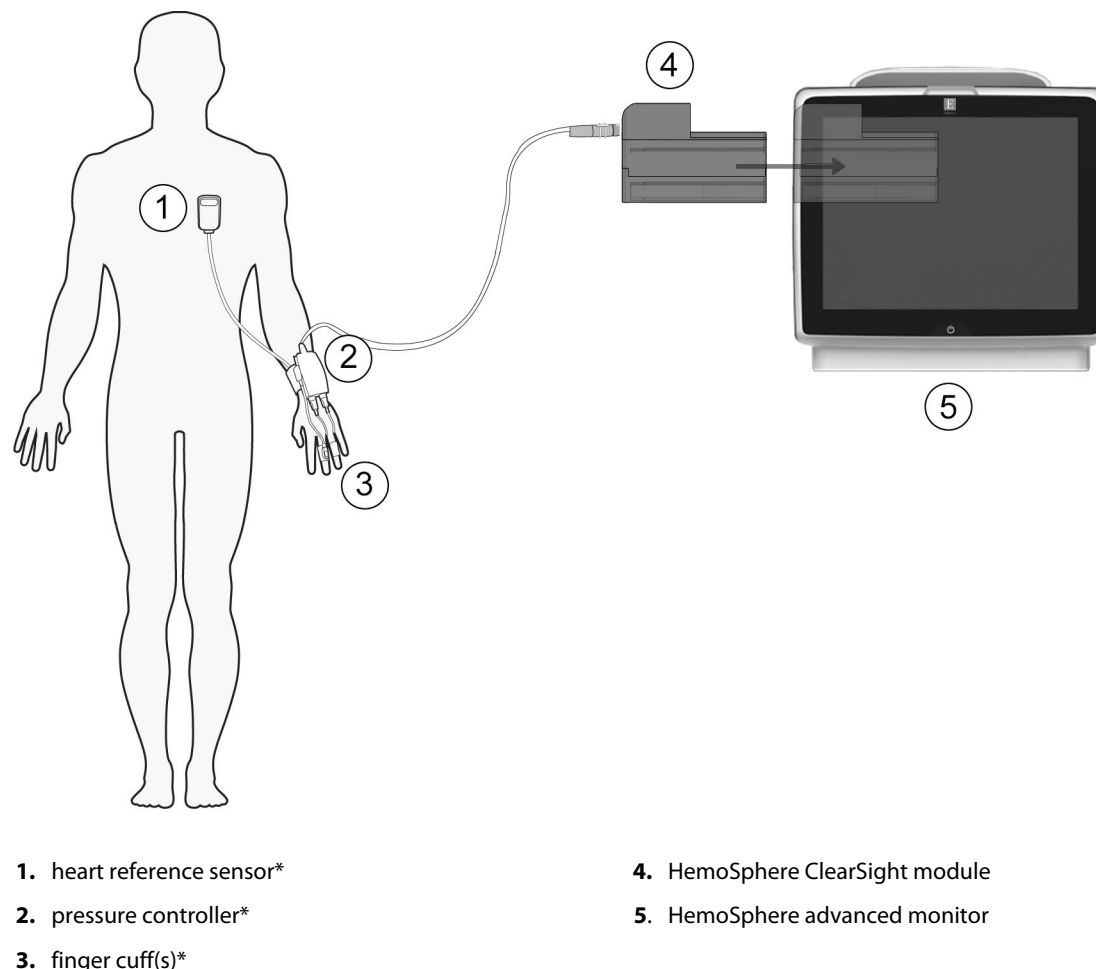

Figure 11-1: HemoSphere noninvasive system connection overview
The HemoSphere noninvasive system is composed of the HemoSphere advanced monitor with ClearSight module and connected pressure controller, heart reference sensor, and compatible Edwards finger cuff(s). See system connections in Figure 11-1 on page 190. Accurate measurement of the patient's blood pressure and key hemodynamic parameters is based on the Volume Clamp method, Physiocal method and ClearSight algorithm.
The HemoSphere ClearSight module is compatible with all approved Edwards finger cuffs. See Figure 11-1 on page 190 for an overview of the HemoSphere noninvasive system connections.
Components indicated by * in Figure 11-1 on page 190 legend are APPLIED PARTS as defined in IEC 60601-1 that in normal use necessarily come into physical contact with the patient for the HemoSphere noninvasive system to perform its function.
3. Attach the pressure controller cable to the HemoSphere ClearSight module. (Figure 11-1 on page 190)